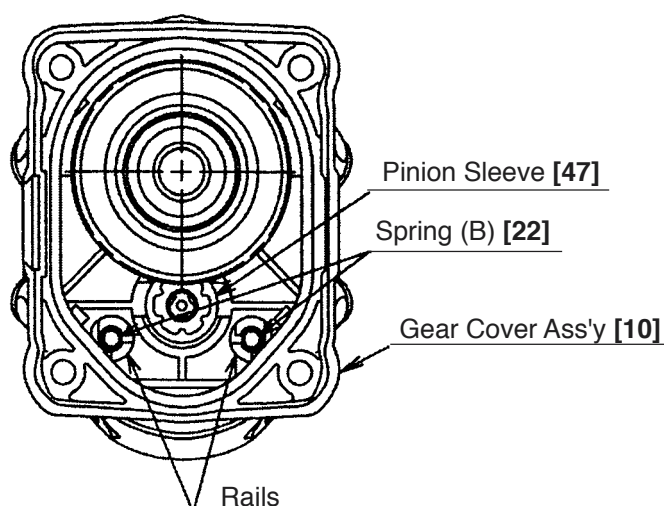

Fig. 14
(1) Disassembly of the striking mechanism section
- Push the Second Hammer **[29]** in the main body with a drill bit or screwdriver to release the Striker **[37]** from O-ring (C) **[34]**.
- Remove Springs (B) **[22]** from the rails in the Gear Cover Ass'y **[10]** as shown in Fig. 14.